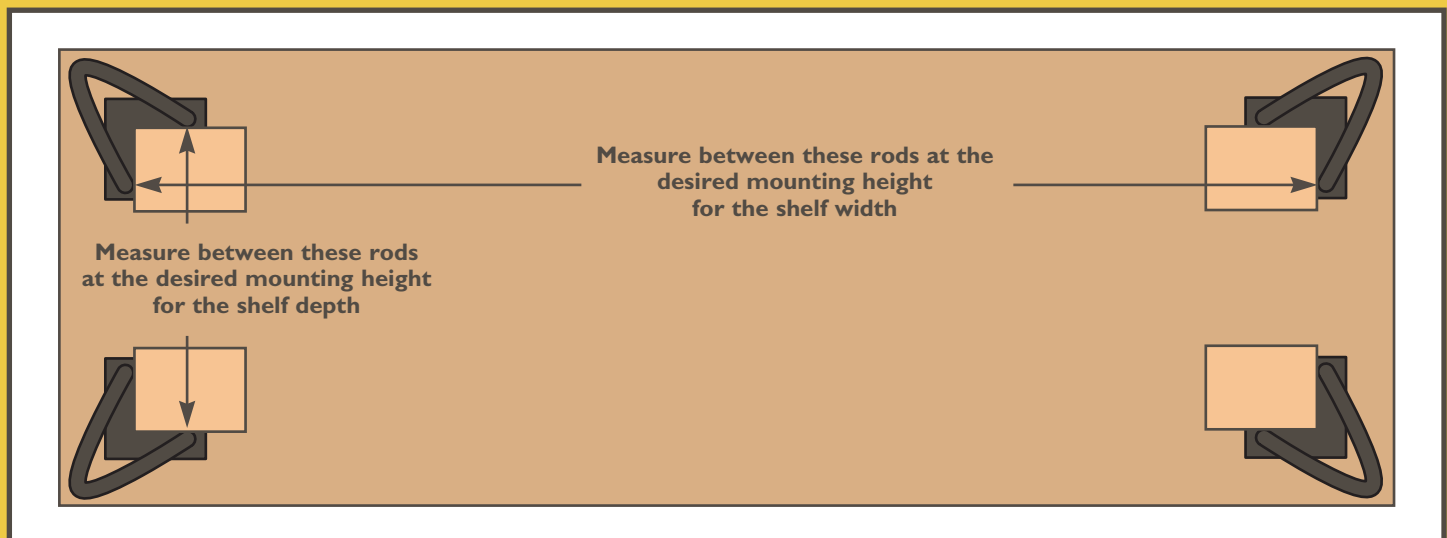

Fig. 2
3. Measure between the rods of the Hairpin Table Legs at the desired mounting height to determine the length and width of your shelf. **Fig. 2.**